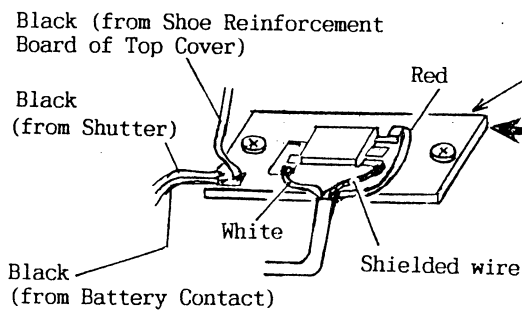

Fig.14
- 8) Unsolder the black lead wire (coming from the shoe Reinforcement Board on the Top Cover) on the SPD Board and remove the Top Cover Ass'y. (See Fig.14)